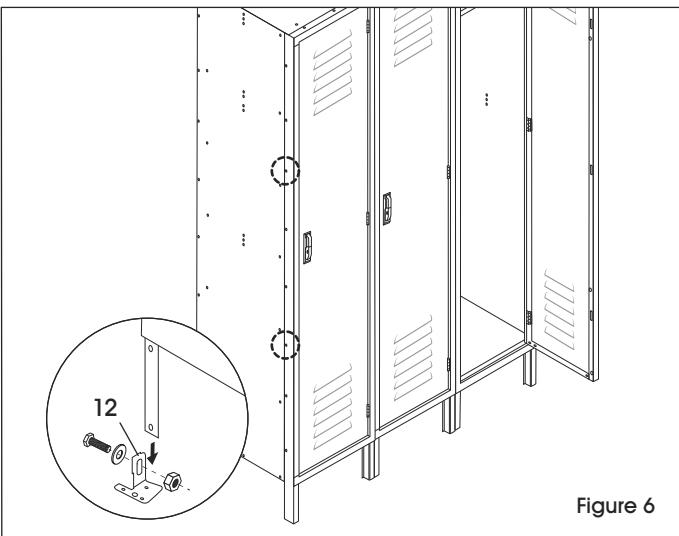

Figure 6
10. With two people, being careful not to put all the weight on the rear legs, stand unit upright and place in desired location. Check and tighten all permanent bolts. (See Figure 6)
11. For 18" deep lockers: Place end of coat rod (10) over projecting tab of top left coat hook. Bring up the other end of coat rod and secure it over tab of right coat hook.
1. If joining a 3-wide unit beside another unit, temporarily install a bolt and nut into the third and sixth holes down from the top of the outer frame(s) that will be joined to the adjacent locker frame(s). (See Figure 6)
3. For 18" deep lockers: Place end of coat rod (10) over projecting tab of top left coat hook. Bring up the other end of coat rod and secure it over tab of right coat hook.
2. Use supplied leveling feet and hardware (12) to level the unit. (See Figure 6)